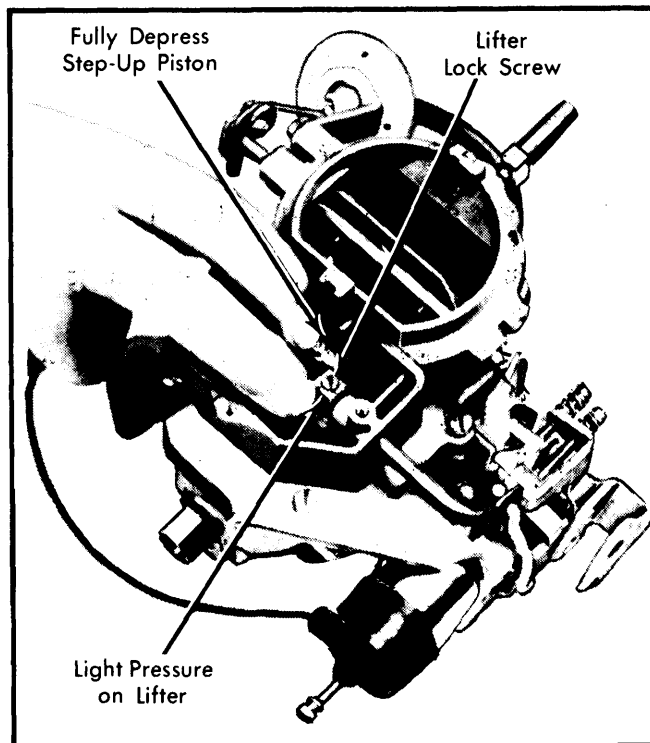

Fig. 4 Adjusting Step-Up Piston
1) With vacuum piston installed, back off idle speed screw until throttle valves are seated. Count number of turns required to seat throttle valves. Loosen lifter lock screw. See Fig. 4.